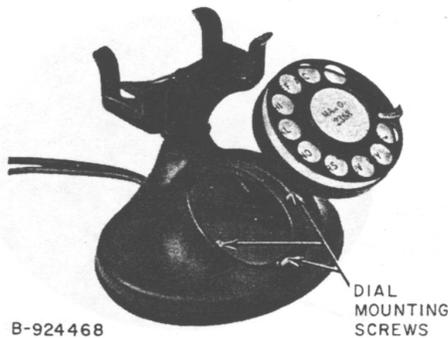

Fig. 4—Assembly of Dial on D-Type Handset Mounting
2.04 The D-type handset mounting may be equipped with a 4-, 5-, or 6-type dial (Fig. 4). The dust cover must be removed from the 6-type dial when used with the D-type handset mounting.